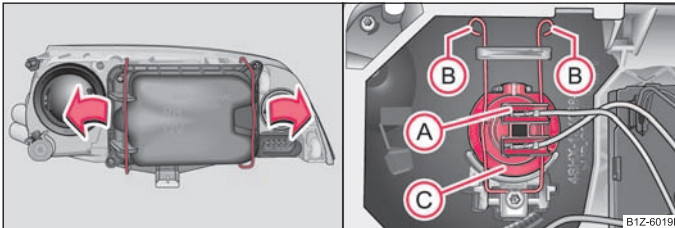

Fig. 149 Replacing the cover for the lamps of the parking- and low-beam light / removing the bulb for the low-beam light
- Press the wire clamps in the direction of arrow to the side and remove the cover ⇒ fig. 149 - left.
- Unplug plug (A).
- Press the wire clamps (B) in the direction of the headlight and then unhook them to the side.
- Remove the light bulb (C) and insert the new light bulb in such a way that the fixing lugs of the light bulb socket fit into the recesses at the reflector.